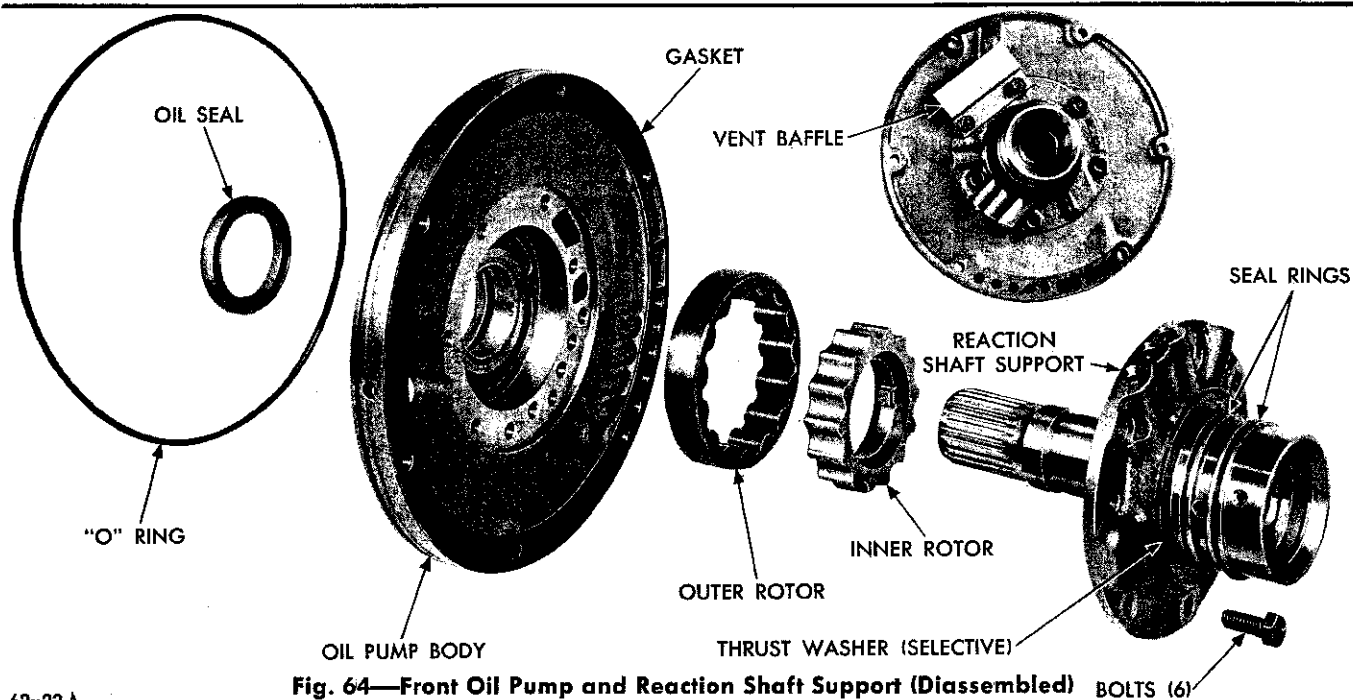

Fig. 64—Front Oil Pump and Reaction Shaft Support (Disassembled)
Figure 64 shows the front oil pump and reaction shaft support disassembled.
Inspect the interlocking seal rings (Fig. 64) on the reaction shaft support for wear or broken locks, make sure they turn freely in the grooves. Do not remove rings unless conditions warrant. Inspect the pump body and reaction shaft support bushings for wear or scores. Inspect machined surfaces on the oil pump body and reaction shaft support for nicks and burrs. Inspect the oil pump rotors for scoring or pitting. With the rotors cleaned and installed in the pump body, place a straightedge across the face of the rotors and
(1) Assemble the pump rotors in the pump housing (Fig. 64).
(2) Install the reaction shaft support and position the vent baffle over the vent opening. Install the retaining bolts and tighten to 150 inch-pounds torque.
(3) Place a new oil seal in the opening of the front oil pump housing (lip of seal facing inward) using Tool C-3860 drive the seal into housing until the tool bottoms.